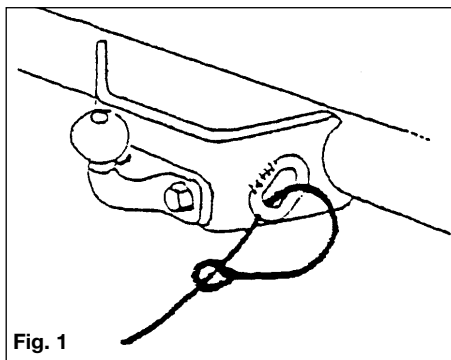

Fig. 1
- Pass the cable through the attachment point and clip it back on itself (figure 1).